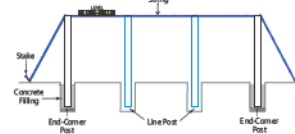

Figure 5
6. Dig the holes for all the line posts. (Figure 5)